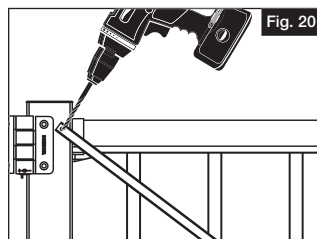

Fig. 20
- Attach brace to uprights. Pre-drill one end of brace with a $\frac{1}{8}$ " drill bit through upright, then anchor the brace to the upright with #8 x $\frac{3}{4}$ " screw. Repeat for other end of brace (Fig. 20).